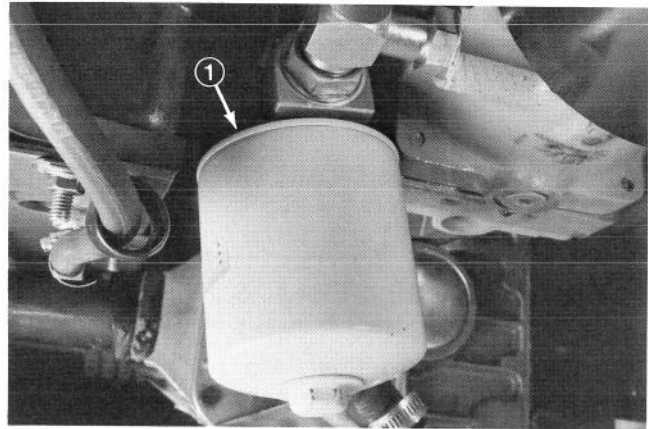

Figure 60
1. Clean area where hydraulic oil filter mounts. Remove filter from base (Fig. 60) and clean filter mounting surface.